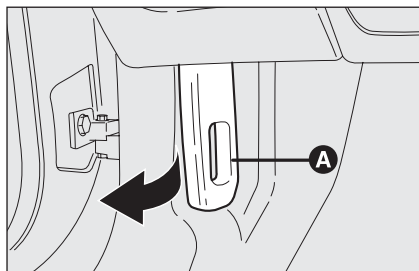

fig. 116
- pull the lever **A-fig. 116** in the direction indicated by the arrow in order to release the lock of the engine bonnet;